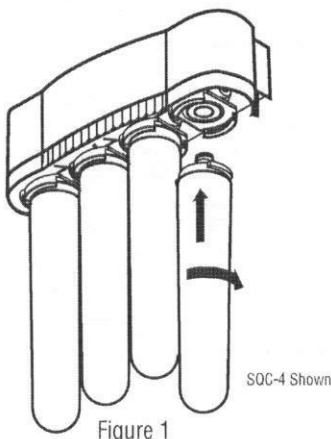

Figure 1
- 5) Line up the cartridge ears, insert the cartridge and push it up into the head until it is fully seated. Twist the cartridge 1/4 turn to the right to lock into place. (See Figure 1)